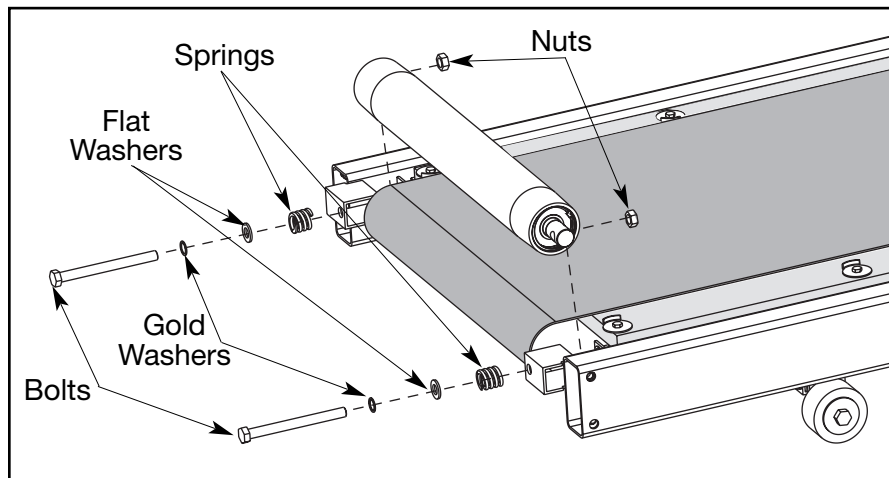

Figure 3
- A.** Using a 3/4" socket wrench, loosen and remove the two rear roller bolts. See Figure 3. Loosen each bolt evenly, making sure not to loosen either bolt too many turns before moving to the other bolt. Remove the bolts, washers, springs, and nuts and set them aside.